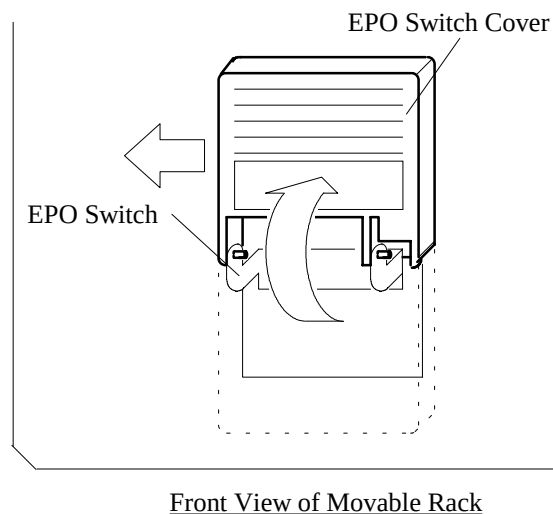

Fig. 3.14-2 Removal of EPO Switch Cover
- i. Attach the EPO Switch cover. Refer to Fig. 3.14-2.